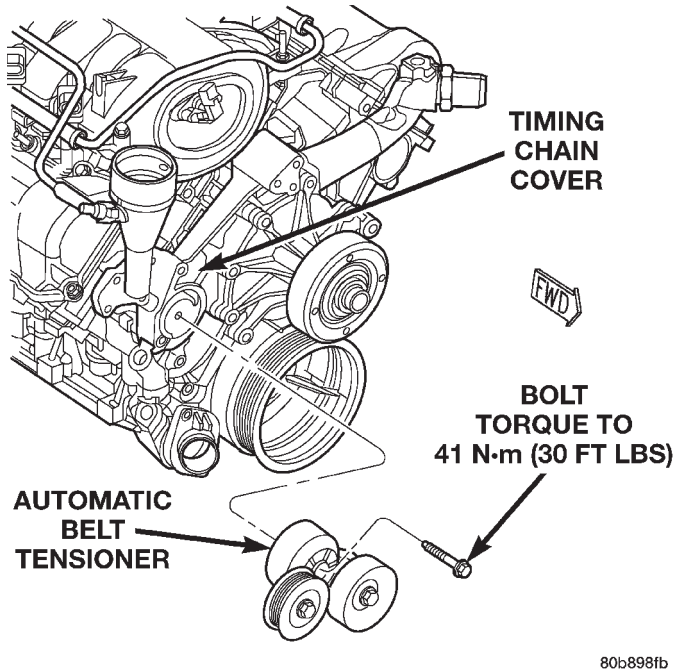

Fig. 59 Automatic Belt Tensioner—4.7L Engine
(1) Remove accessory drive belt. Refer to Accessory Drive Belt in this group.
(2) Remove tensioner assembly from mounting bracket (Fig. 59).